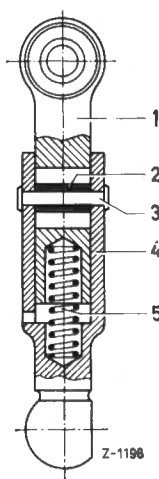

Fig. 26-12/5
8. Check the polyamide bushing (2) in the spring-loaded ball connector (Fig. 26-12/5). To do this compress the ball connector as far as the stop and let it go again. If a metallic noise can be heard at one of the stops, the polyamide bushing is damaged and the ball connector must be replaced.